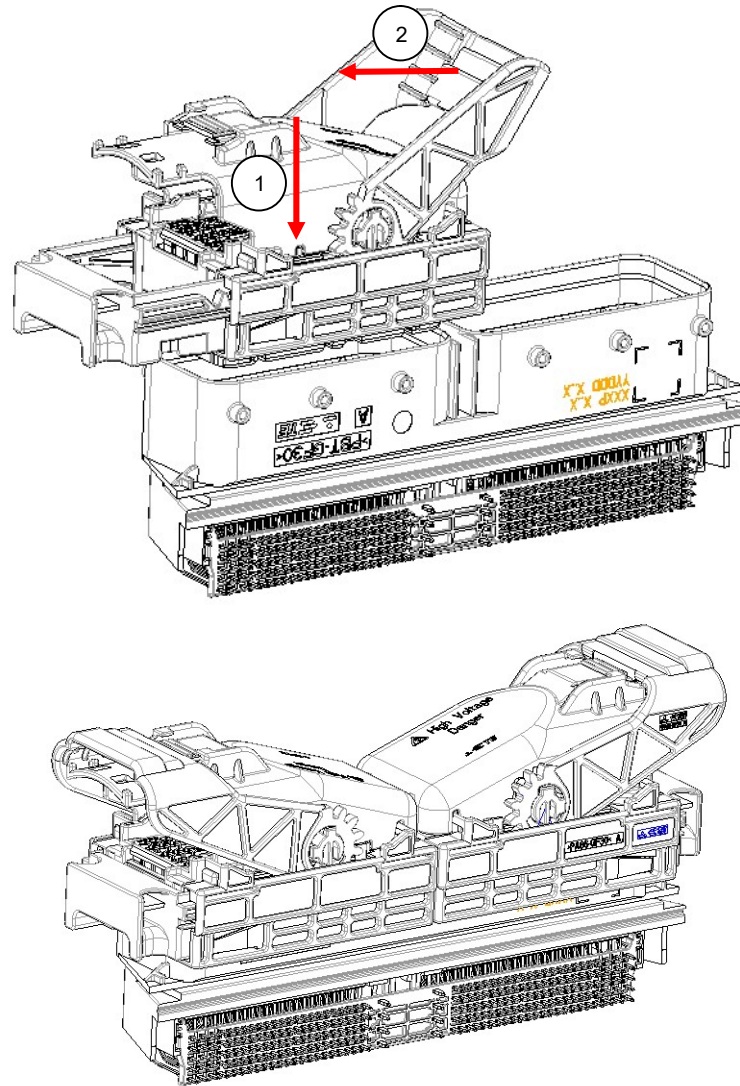

Fig. 14
- Confirm LEVER is in PRE-LOCK condition, insert the PLUG ASS'Y to HEADER ASS'Y until making assemble sound, then turning the lever to fitted as shown Fig. 14.